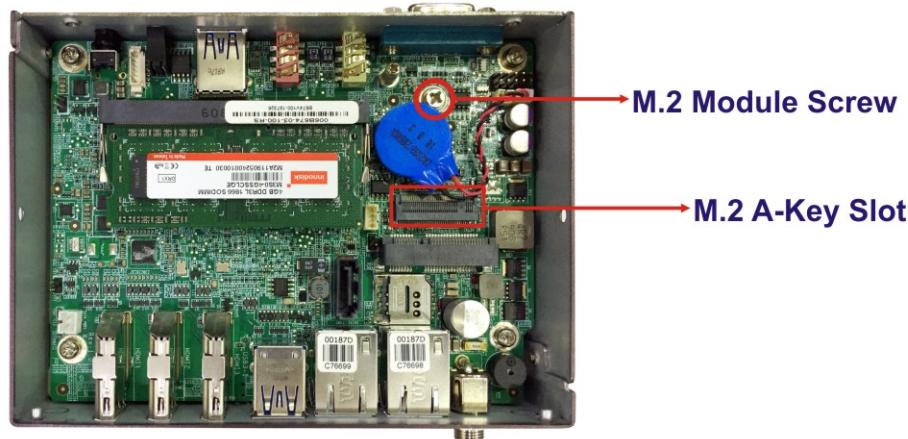

Figure 3-5: M.2 A-key Slot Location
Step 3: Locate the M.2 A-key slot on the motherboard (**Figure 3-5**).